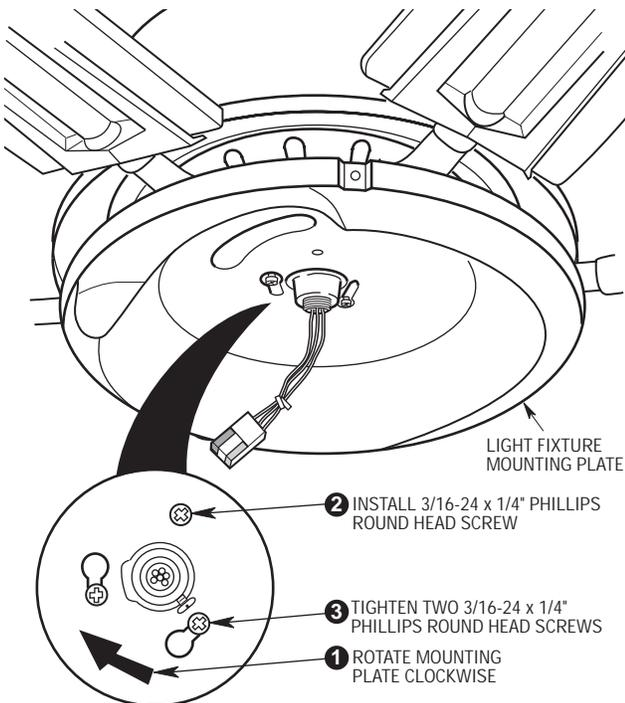

Figure 14
- 4. Position the keyhole slots in the light fixture mounting plate over the two screws in the coupling adapter (Figure 14). Rotate the mounting plate clockwise to engage the slots under the screw heads, then install a 3/16-24 x 1/4" Phillips round head screw in the remaining tapped hole in the coupling adapter. Tighten the two screws securing the keyhole slots.